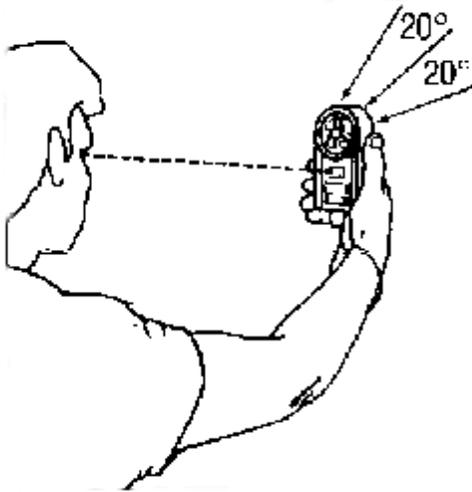

Figure 2. Anemometer must be held in a vertical position facing directly toward the wind.
3.3.3 Hold the anemometer in a vertical position in front of you and take a wind reading from the display (see Figure 2 below).